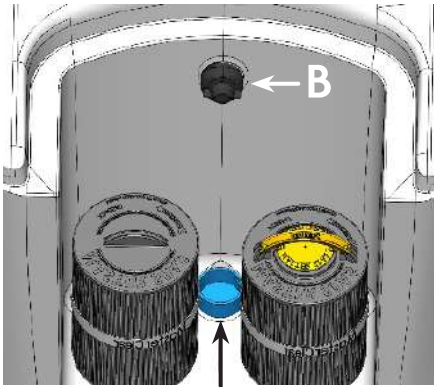

Figure 1
- Smart Cell Base Connection fitting (Figure 1, A) – Located in the bottom of filter housing, this fitting secures the base of the Smart Cell and allows it to twist on/off for easy install, removal and replacement purposes.
- Smart Cell Wall Connection fitting (Figure 1, B) – Located at the top of the filter housing, this electrical connection twists on/off for installation, removal and replacement of the Smart Cell generator. This preinstalled wall fitting includes an 18" wire harness, found inside the equipment cabinet area, to allow the swim spa to be "Ready" for simple aftermarket Master Clear Salt System Activation Kit installation.